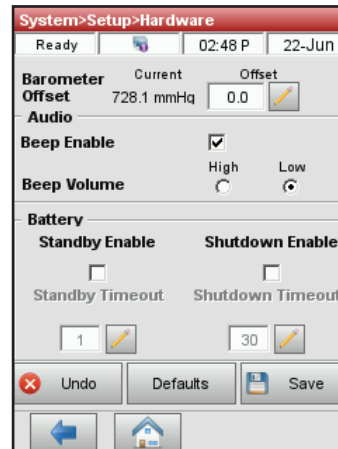

Figure 26. System Manager > Setup > Hardware screen
3. On the Hardware screen, adjust the hardware options as desired (figure 26).